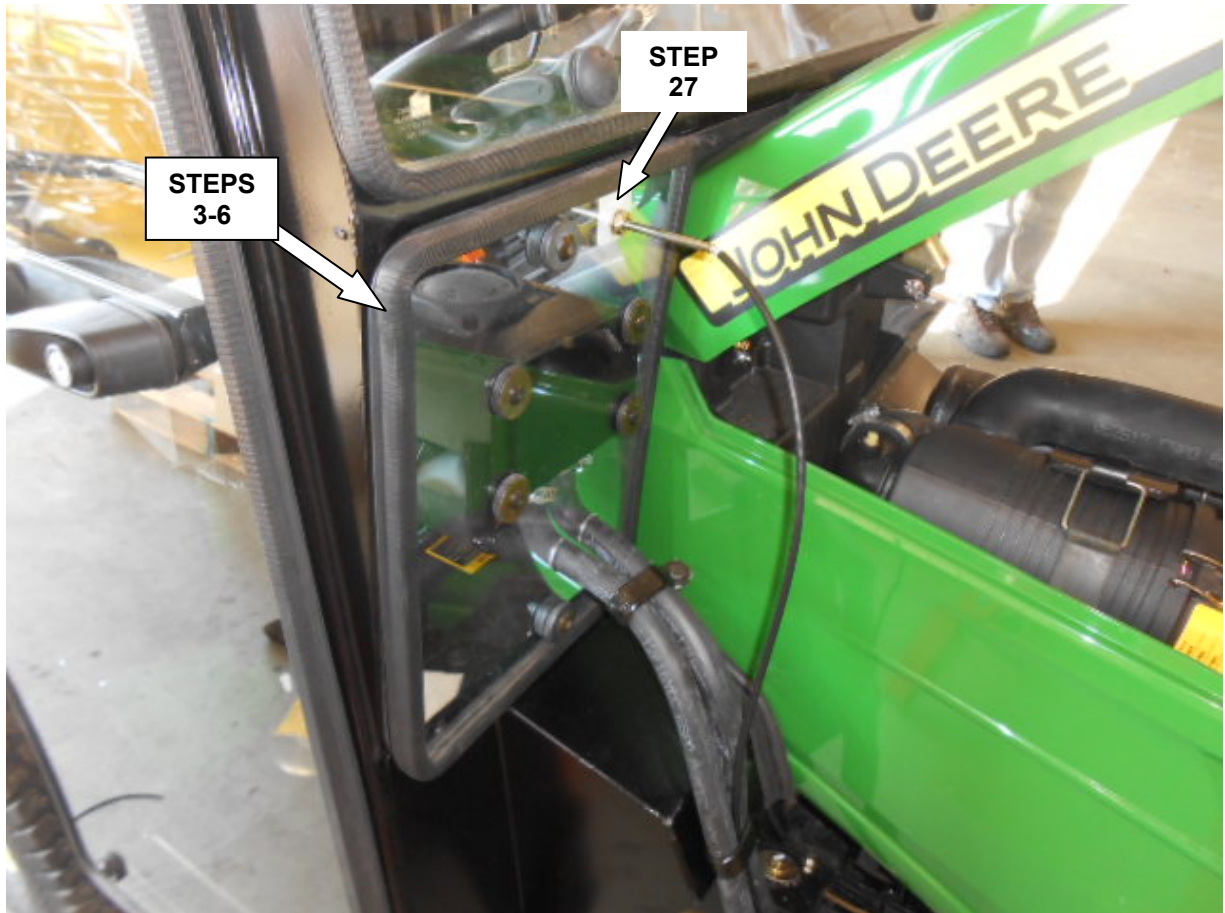

Figure 3
4. Install seals onto new window (1) supplied with heater kit (**Figure 3**).
5. Re-install window with seals onto lower RH front cab location (**Figure 3**) re-using window hardware.
27. Apply push/pull decal (7) to inside of RH front window (**Figure 3**).